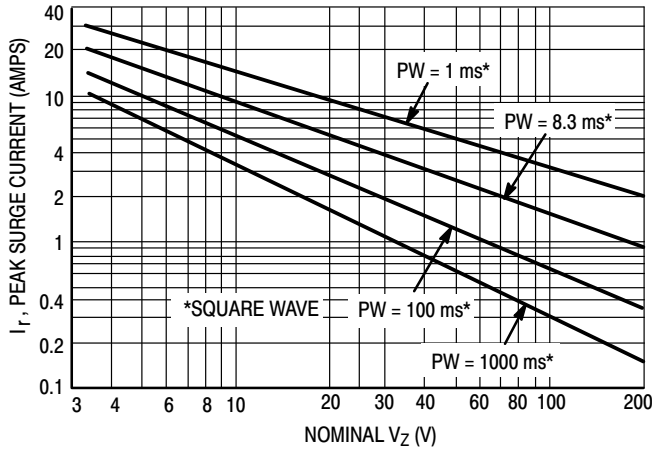
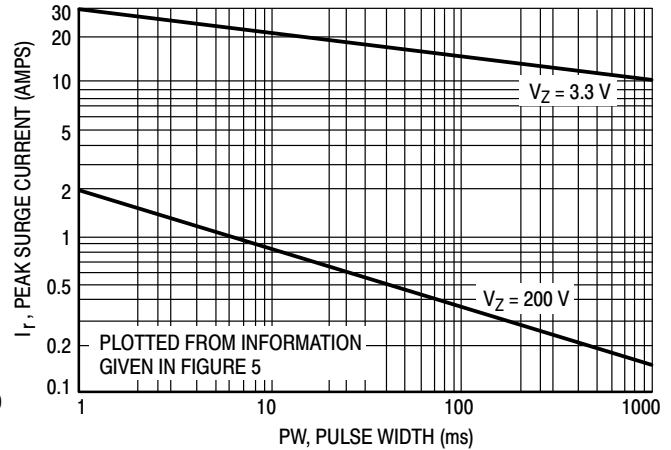

Figure 5. Maximum Non-Repetitive Surge Current
Figure 6. Peak Surge Current versus Pulse Width
- SURGE CURRENT (I_R):** Surge current is specified as the maximum allowable peak, non-recurrent square-wave current with a pulse width, PW, of 8.3 ms. The data given in Figure 5 may be used to find the maximum surge current for a square wave of any pulse width between 1 ms and 1000 ms by plotting the applicable points on logarithmic paper. Examples of this, using the 3.3 V and 200 V zener are shown in Figure 6. Mounting contact located as specified in Note 2 ($T_A = 25^\circ\text{C} + 8^\circ\text{C}, -2^\circ\text{C}$).
- SURGE CURRENT (I_R):** Surge current is specified as the maximum allowable peak, non-recurrent square-wave current with a pulse width, PW, of 8.3 ms. The data given in Figure 5 may be used to find the maximum surge current for a square wave of any pulse width between 1 ms and 1000 ms by plotting the applicable points on logarithmic paper. Examples of this, using the 3.3 V and 200 V zener are shown in Figure 6. Mounting contact located as specified in Note 7 (T_A = 25°C +8°C, -2°C).
Data of Figure 4 should not be used to compute surge capability. Surge limitations are given in Figure 5. They are lower than would be expected by considering only junction temperature, as current crowding effects cause temperatures to be extremely high in small spots resulting in device degradation should the limits of Figure 5 be exceeded.